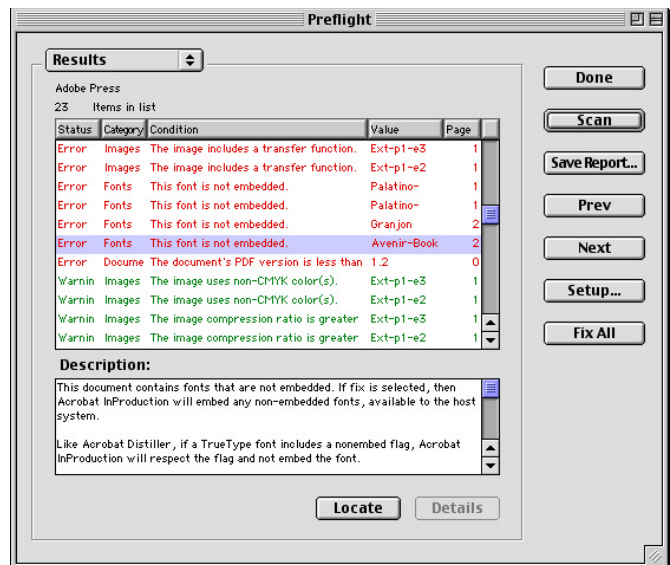

FIG. 1: The results of the Preflight process. Certain types of errors can be corrected by using the "Fix All" button.
- Preflight (FIG. 1). The preflight tool performs the operation of interrogating a PDF file to ensure that it conforms to the production requirements established for the workflow. Files are checked against a standard or user-defined preflight profile, that finds differences which are likely to result in errors, and ultimately cause the job to fail. The result of the preflight process is the display of an error list, and an explanation of what each error means and how it can be corrected. Certain errors, such as improper font embedding can be corrected by the program, given that the required fonts are available on the system. In other cases the nature of the error can be fatal, such as the presence of low resolution images. The only recourse is the generation of a new PDF file from its source application. Users can try the preflight process on-line at <http://preflightpdf.adobe.com/>.